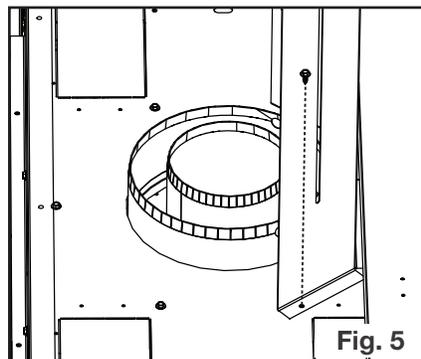

Fig. 5
5. Use the fasteners in step 4 to secure the vent shield to the appliance (Fig. 5).